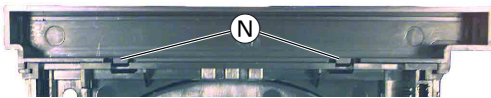

Fig. 4
- Open the tray (with a defective drive mechanism, see Point 1), undo the 2 locking lugs ⑤ (Fig. 4) then remove the front trim of the tray.